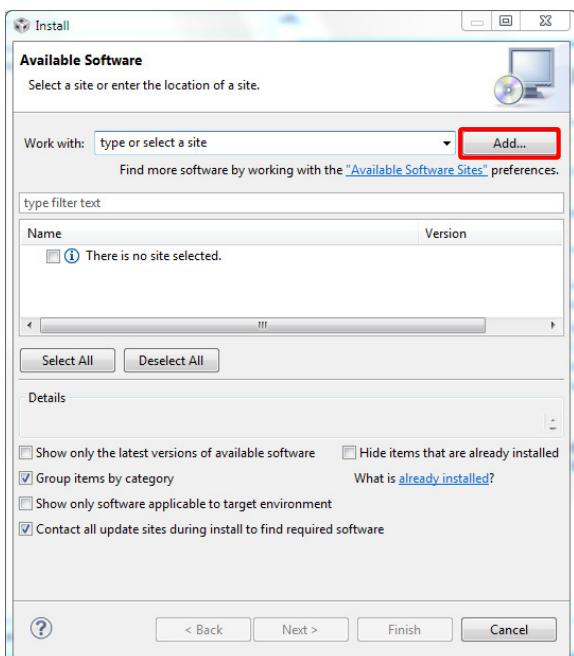

Figure 5.4: **Add** button
- a) Click **Add** (see Figure 5.4 on page 17) to open the **Add Repository** dialog.